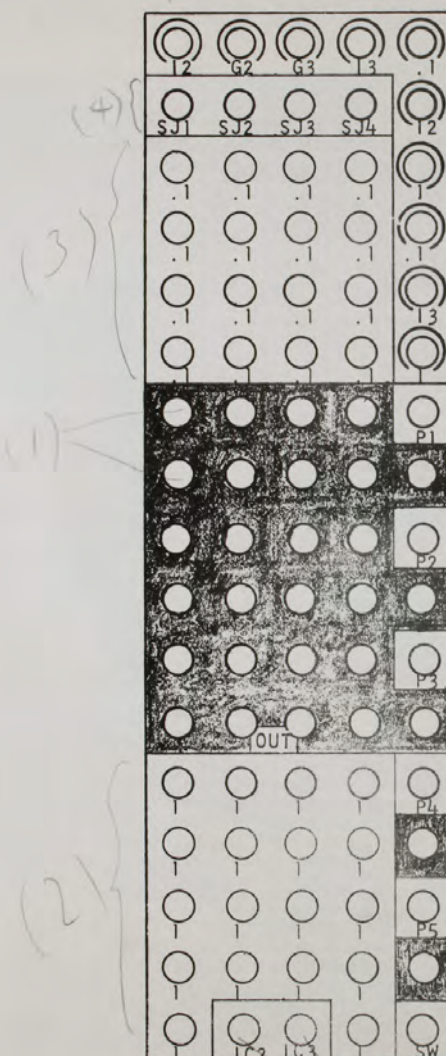
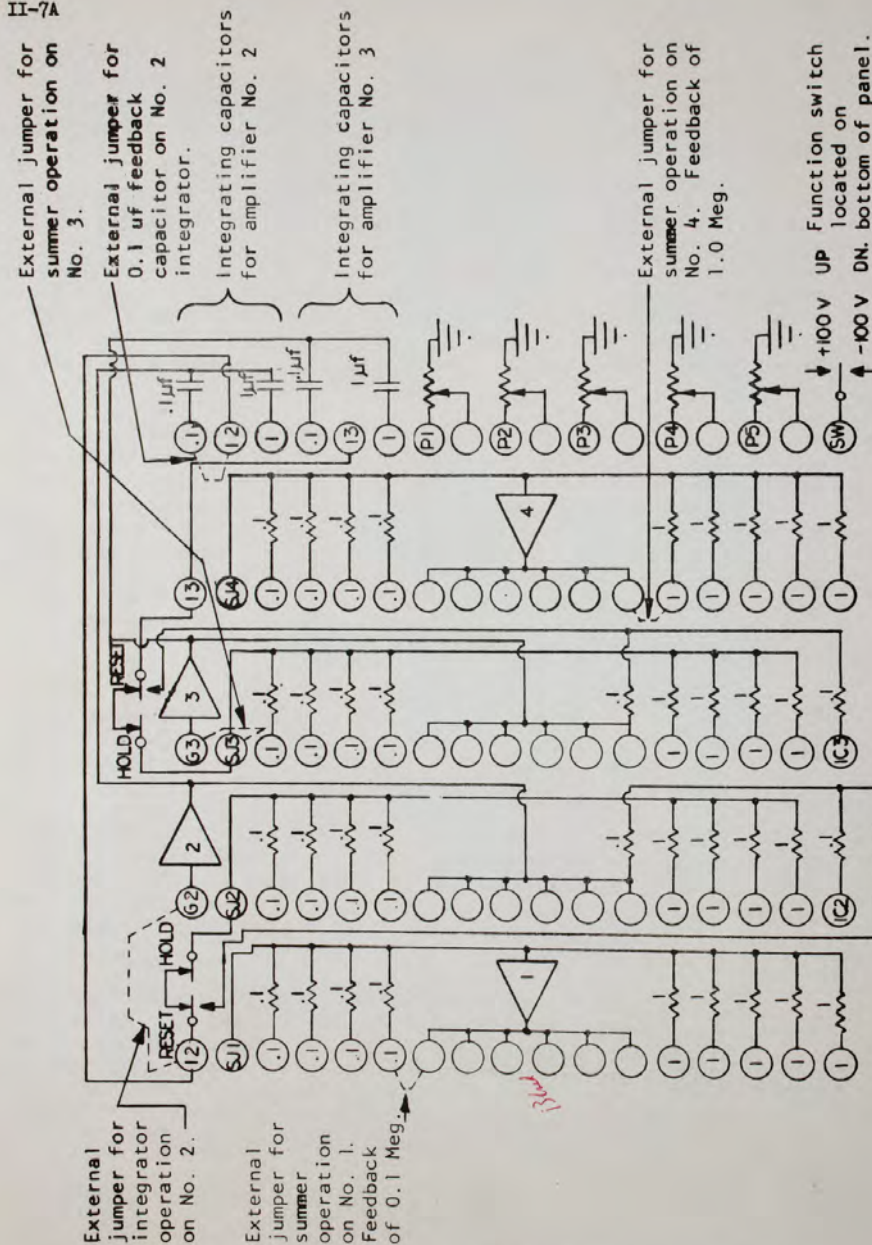
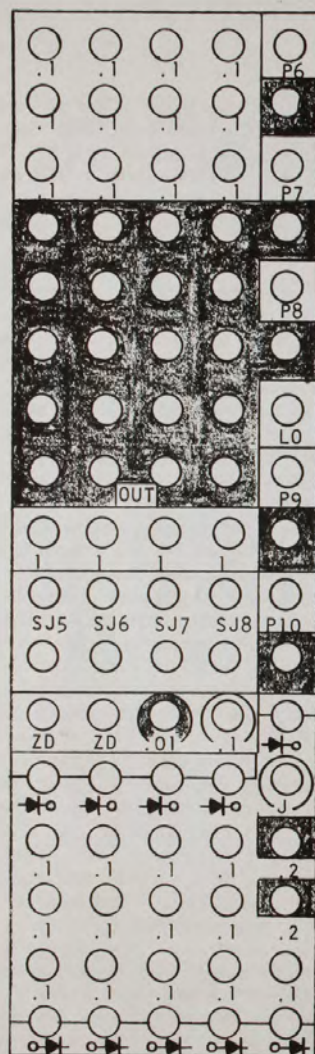

Figure 3-3. Patchboard Layout for 4-Amplifier Integrator-Summer Area.
Figure 3-4, Patchboard Circuit Schematic, Integrator-Summer Area.
Figure 3-7. Patchboard Layout for the 4-Amplifier Summer-Diode Area
Each of the 11 integrator-summer areas of the patchboard consists of a 5×17 matrix of holes which can provide patch cord connections to summing amplifier 1 (four 0.1 meg and five 1 meg input resistors), integrator-summer amplifiers 2 and 3 (each with four 0.1 meg and four 1 meg input resistors), and summing amplifier 4 (four 0.1 meg and five 1 meg input resistors), as well as connections to pots 1-5. An integrator-summer area of the patchboard is illustrated in Figure 3-3. In general, columns 1, 2, 3, and 4 of the integrator-summer area provide input and
(1) **AMPLIFIER OUTPUTS.** Across the center of the integrator-summer area is a 4 x 6 matrix of holes with black background labeled OUT at the bottom of the area. Column 1 provides six common connections to the output of amplifier 1, column 2 provides six common connections to the output of amplifier 2, column 3 provides six common connections to the output of amplifier 3, column 4 provides six common connections to the output of amplifier 4. These connections are shown in the overall integrator-summer area schematic in Figure 3-4.
(2) **1 MEGOHM INPUT RESISTORS.** Directly below the black output area in Figure 3-3 is a 4 x 5 matrix with yellow background which provides connections to the 1 meg input resistors. Columns 1 and 4 provide connections for five 1 meg input resistors for summing-amplifiers 1 and 4, respectively. Columns 2 and 3 provide connections for four 1 meg input resistors for integrator-summer amplifiers 2 and 3, respectively. The single holes with grey background at the bottom of columns 2 and 3 are labeled IC2 and IC3 are the connections into which initial-condition voltages for integrators 2 and 3 are patched, respectively.
(3) **0.1 MEGOHM INPUT RESISTORS.** Directly above the black output area in Figure 3-3 is a 4 x 4 matrix with white background which provides connections to the 0.1 meg input resistors. Columns 1, 2, 3, and 4 provide connections for four 0.1 meg input resistors for amplifiers 1, 2, 3, and 4, respectively.
(4) **SUMMING-JUNCTION CONNECTIONS.** Directly above the white 0.1 meg area is a row of 4 holes with blue background which provide connections, from left to right, to the summing junctions for amplifiers 1, 2, 3, and 4, respectively. This is the second row from the top of Figure 3-3 and the holes are labeled, respectively, SJ1, SJ2, SJ3, and SJ4.
(5) **INTEGRATOR-SUMMER CONNECTIONS.** The top row in Figure 3-3 has 4 holes labeled, respectively, I2, G2, G3, and I3. Holes G2 and G3 are surrounded by a red ring and provide connections to the input grid for amplifiers 2 and 3, respectively, as can be seen in the circuit schematic of Figure 3-4. Holes I2 and I3 are surrounded by a blue ring and provide connections to the reset-relay common for amplifiers 2 and 3, respectively, as is evident in Figure 3-4.
The first 6 holes in column 5 of the integrator-summer area provide connections to the integrating capacitors for amplifiers 2 and 3. The 2nd and 5th holes from the top of column 5 are surrounded by a blue ring and are labeled I2 and I3, respectively; they provide connections to the reset-relay common for amplifiers 2 and 3, respectively. The 1st and 4th holes from the top are surrounded by a white and black ring and are labeled .1; they provide connections to the 0.1 mfd feedback capacitors for amplifiers 2 and 3, respectively, as shown in Figure 3-4. The 3rd and 6th holes from the top are surrounded by a yellow ring and are labeled 1; they provide connections to the 1 mfd feedback capacitors for amplifiers 2 and 3, respectively.
To connect amplifier 2 as an integrator with 1 mfd feedback capacitor a cord is patched from the hole labeled G2 to the hole to the left labeled I2; a second cord is patched from I2 (2nd hole from the top of column 5) to the hole directly below, labeled 1. If a 0.1 mfd capacitor is desired instead of 1 mfd, the cord from I2 is patched to the hole directly above labeled .1. Similarly, to connect amplifier 3 as an integrator a cord is patched from G3 to the hole to the right labeled I3; for a 1 mfd feedback capacitor a second cord is patched from I3 (5th hole from the top of column 5) to the hole directly below, labeled 1; for a .1 mfd feedback capacitor the cord from I2 is patched to the hole directly above labeled .1. The circuit details can be seen in the schematic of Figure 3-4.
(6) INITIAL-CONDITION CONNECTIONS. At the bottom of columns 2 and 3 in Figure 3-3 are two holes with grey background labeled IC2 and IC3. These provide initial condition connections for amplifiers 2 and 3, respectively, when connected as integrators. The negative of the desired initial condition voltage is patched into IC2 or IC3. If no voltage is connected the initial condition will be zero.
(7) COEFFICIENT-POT CONNECTIONS. The 7th through 16th holes down from the top in column 5 provide connections to coefficient pots 1 to 5. The pot input hole has red background and is labeled P₁ for pot 1, P₂ for pot 2, etc. In each case the pot output hole is directly below the input hole and has a black background. As shown in Figure 3-4 the input hole for each pot is connected to the high side of the pot, the output hole is connected to the pot wiper arm, and the low side of the pot is
(8) FUNCTION SWITCH CONNECTION. At the bottom of the coefficient-pot panel for pots 1-5 is a lever switch which can be used to apply +100 or -100 volts to the hole marked SW at the lower right corner of the integrator-summer area in Figure 3-3. The switch has a center-off position.
There are 4 summer-diode areas at the bottom of the patchboard with each area consisting of a 5 x 17 matrix of holes. From left to right across the patchboard are multiplier-summer, summer-diode, multiplier-summer, summer-diode areas, etc., alternating. The summer-diode area provides connections to summing amplifiers 5 to 8 (each with three 0.1 meg and one 1 meg input resistors), coefficient pots 6 to 10, and 5 diode networks. The area is illustrated in Figure 3-7 and the circuit schematic is shown in Figure 3-3. The connections to amplifiers 5 to 8 and pots 6 to 10 are located and labeled identically with the same components in the multiplier-summer are described in the previous section. The details of the diode networks and other components follow.